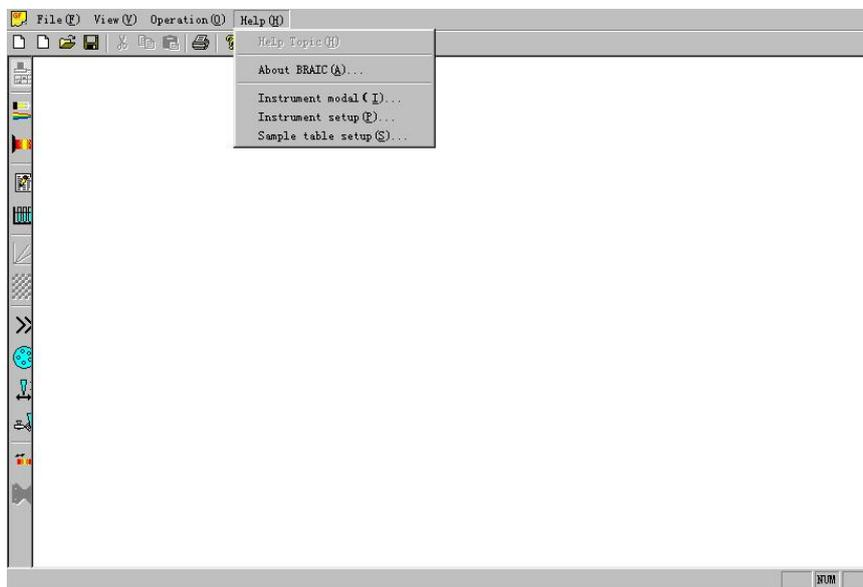

Fig. 4-46
Click “Help (H)” in Fig 4-1 to display sub menu in Fig. 4.46.